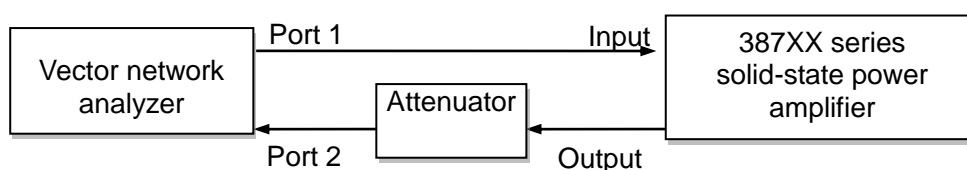

Figure 5-1 Gain and standing wave testing diagram
- 4) Turn the gain regulator on the front panel of the 3871FB solid-state power amplifier clockwise to the end, conduct the gain test according to the connection system shown in Figure 5-1, and record the value S21 as the gain value of the amplifier.
- 4) Turn the gain regulator on the front panel of the 3871FB solid-state power amplifier clockwise to the end, conduct the SWR test according to the connection system shown in Figure 5-1, and record the value S21 as the SWR value of the amplifier.